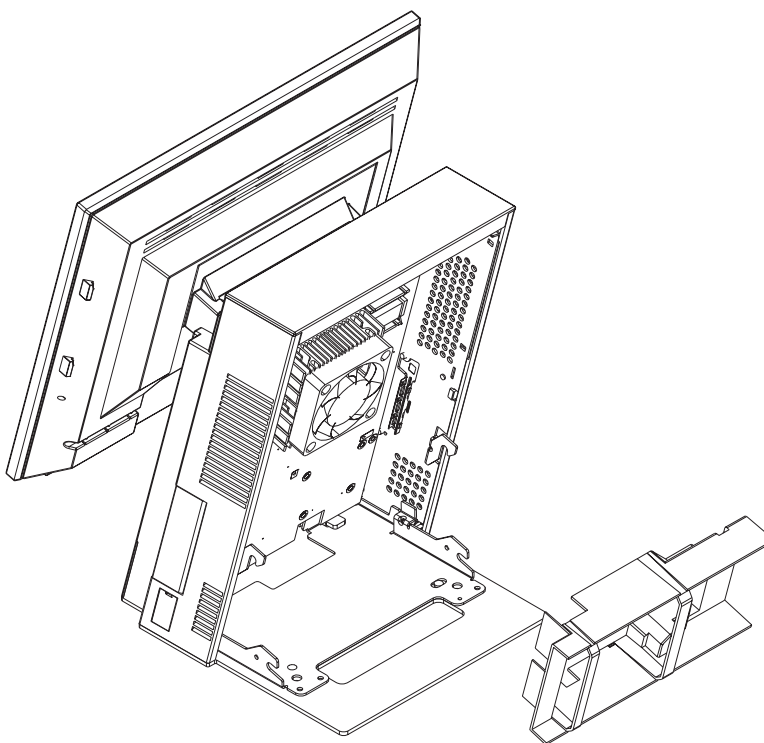

Figure 44. Cooling duct
6. Remove the cooling duct as shown in Figure 44..